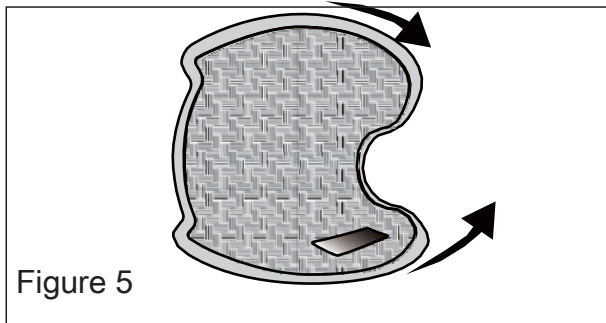

Figure 5
- 2) Roll up the protector and apply curvature to it. (Figure 5)